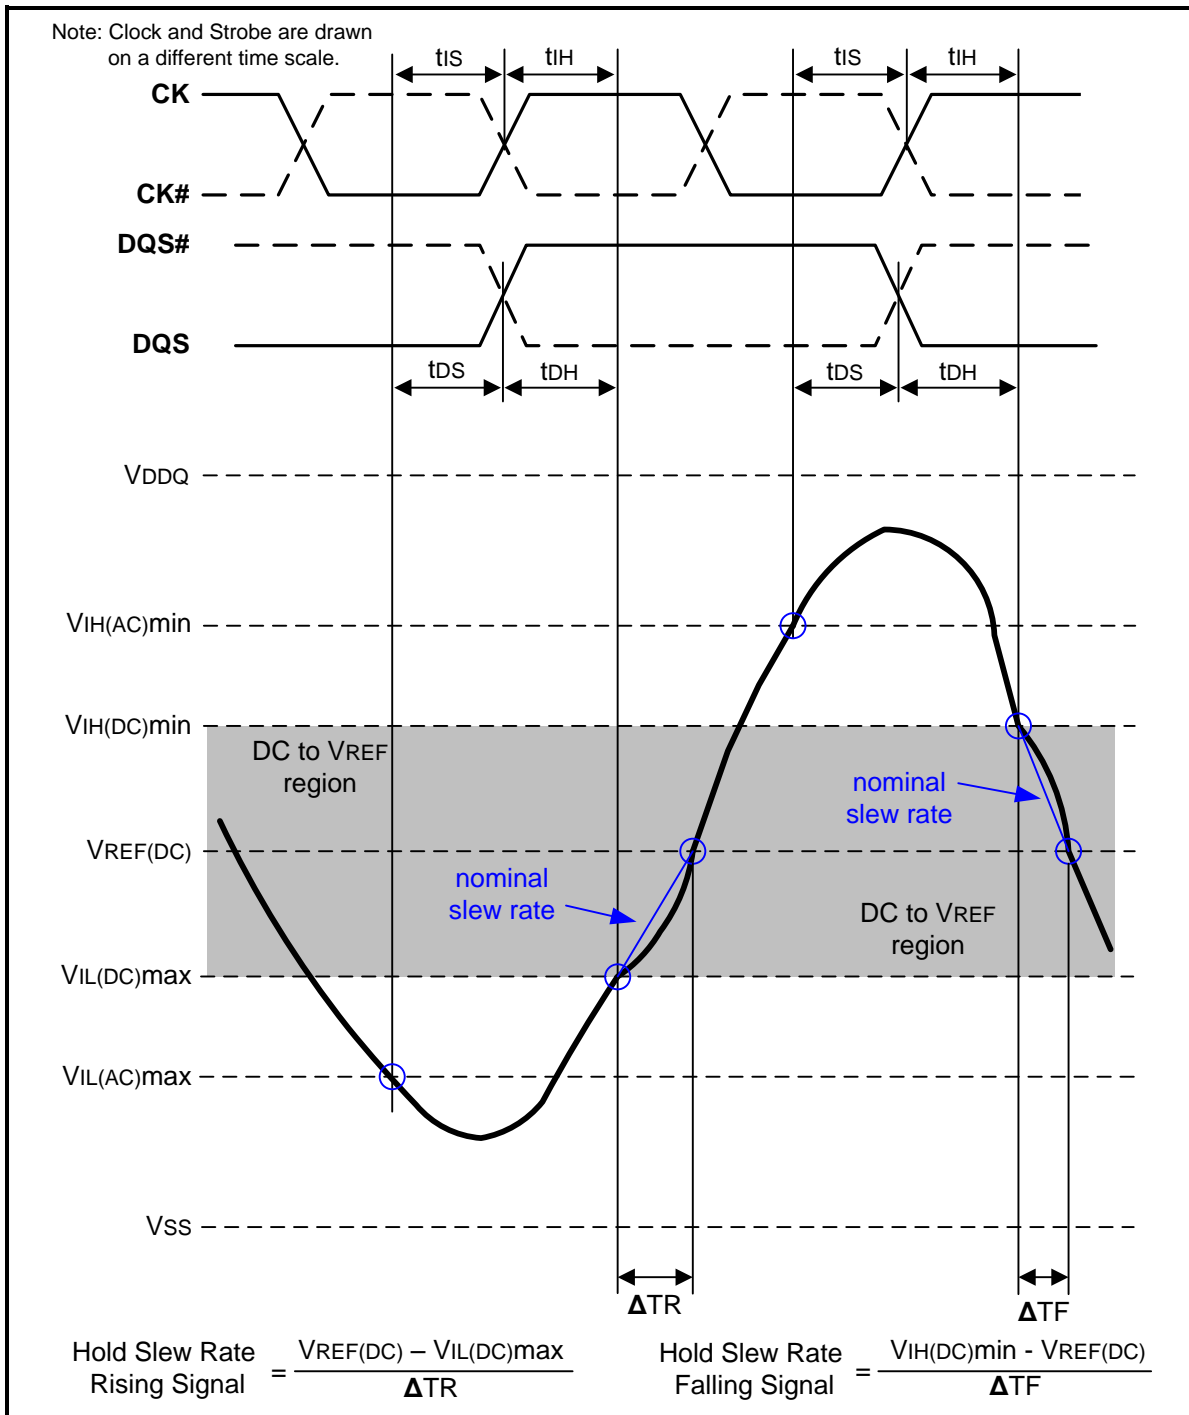
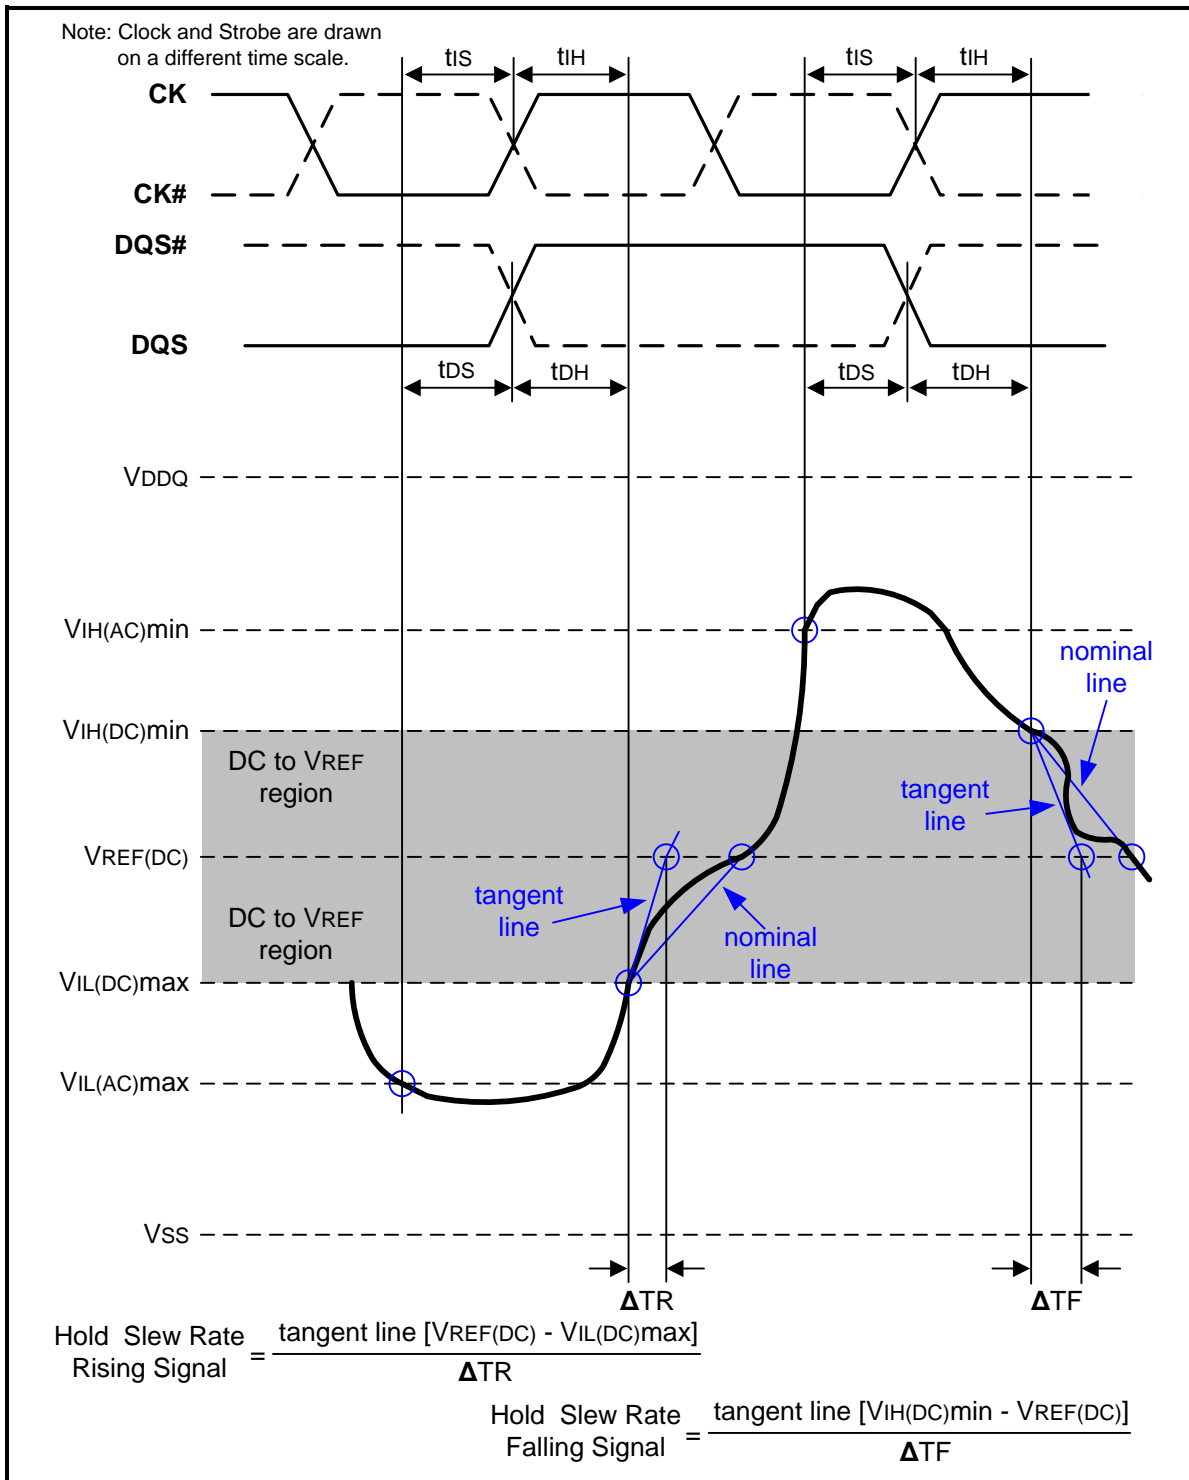

Figure 108 – Illustration of nominal slew rate for hold time tDH (for DQ with respect to strobe) and tIH (for ADD/CMD with respect to clock)
Figure 110 – Illustration of tangent line for hold time t_{DH} (for DQ with respect to strobe) and t_{IH} (for ADD/CMD with respect to clock)
Hold (t_{IH}) nominal slew rate for a rising signal is defined as the slew rate between the last crossing of $V_{IL(DC)max}$ and the first crossing of $V_{REF(DC)}$. Hold (t_{IH}) nominal slew rate for a falling signal is defined as the slew rate between the last crossing of $V_{IH(DC)min}$ and the first crossing of $V_{REF(DC)}$. If the actual signal is always later than the nominal slew rate line between shaded 'DC to VREF(DC) region', use nominal slew rate for derating value (see Figure 108). If the actual signal is earlier than the nominal slew rate line anywhere between shaded 'DC to VREF(DC) region', the slew rate of a tangent line to the actual signal from the DC level to $V_{REF(DC)}$ level is used for derating value (see Figure 110).
Hold (tDH) nominal slew rate for a rising signal is defined as the slew rate between the last crossing of VIL(DC)max and the first crossing of VREF(DC). Hold (tDH) nominal slew rate for a falling signal is defined as the slew rate between the last crossing of VIH(DC)min and the first crossing of VREF(DC) (see Figure 108). If the actual signal is always later than the nominal slew rate line between shaded 'DC level to VREF(DC) region', use nominal slew rate for derating value. If the actual signal is earlier than the nominal slew rate line anywhere between shaded 'DC to VREF(DC) region', the slew rate of a tangent line to the actual signal from the DC level to VREF(DC) level is used for derating value (see Figure 110).